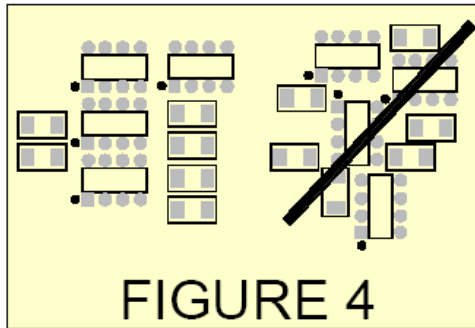

FIGURE 4
**Figure 4.** When possible, orient your like components in the same direction and space them out evenly to the horizontal and diagonal. Inconsistent component placement makes the automated placement process more complex and is more difficult to inspect. It is understood that certain situations require that design criteria take precedence over component placement. However, high volume processing benefits the most from cohesive component placement. It facilitates component identification, troubleshooting and inspection.